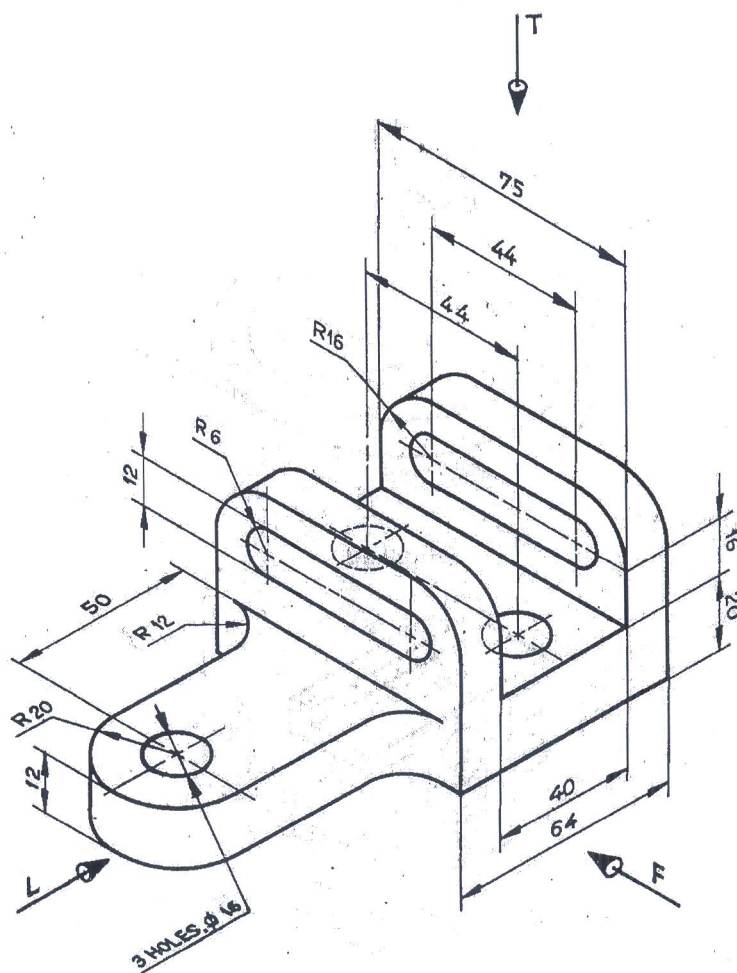

Figure 1
1. Draw the three views, looking in the directions for the object shown in figure 1.